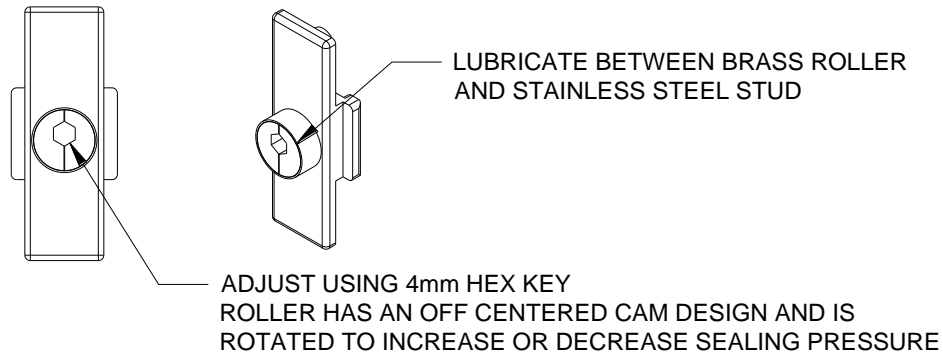

Figure 20
- Apply a light coat of oil as required on the lock points between the brass roller and stainless-steel stud (Figure 20), care must be taken when applying oil as it may stain other components of the door system.